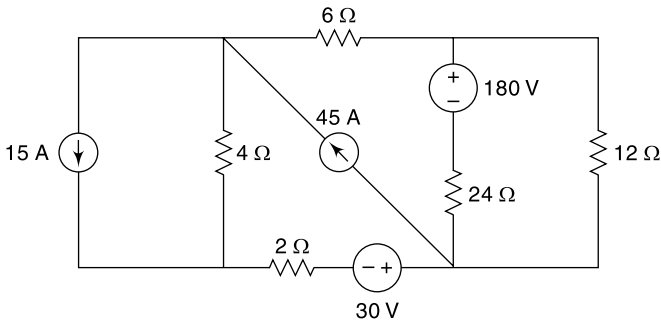

Fig. 4.126 Circuit of Ex. 4.95
4.95 Using loop equations obtain the current in the $12\ \Omega$ resistor of the network shown in Fig. 4.126.
Let us first replace 15 A current source by an equivalent voltage source; the corresponding figure is shown in Fig. 4.126(a).